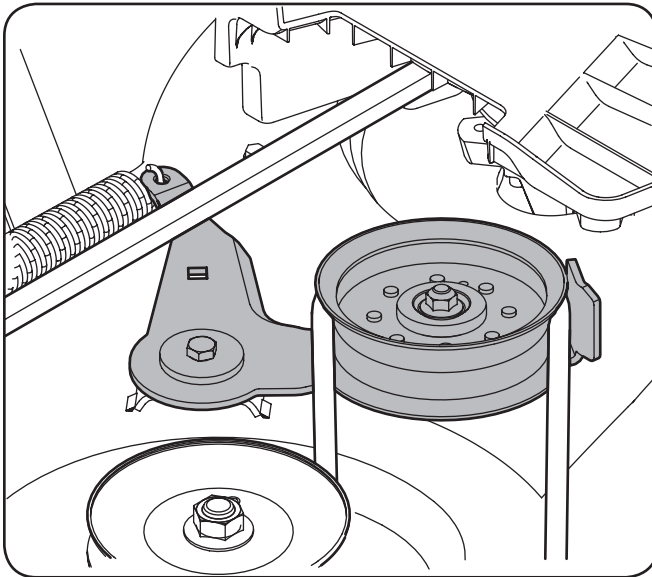

Figure 7-2
7. Working on the right side of the tractor, insert a 1/2-inch drive ratchet wrench, set to *tighten*, into square hole found on the idler bracket. See Figure 7-2.
8. Pivot the wrench forward to move the deck drive pulley forward. See Figure 7-2.